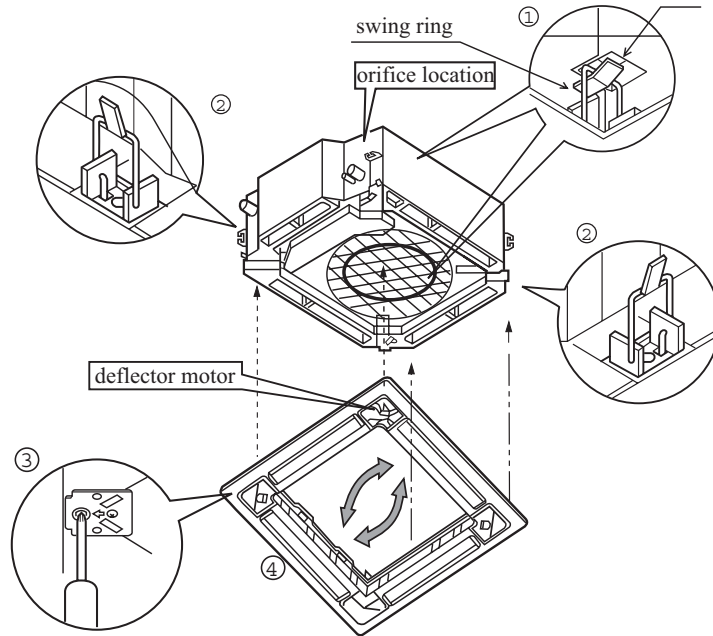

Fig.1
- Be sure to see the Fig.1, when connecting and removing piping from unit.
- Cover joint of gas piping and insulator ⑦ with seal.
- As shown in Fig. 1, make the wind deflector motor of the decorated board face to the orifice of the indoor unit, and then mount the decorated board onto the body of the indoor unit.